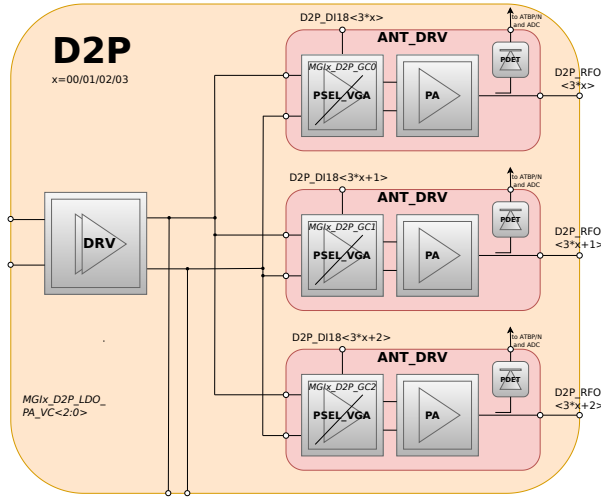

Figure 18: D2P block diagram.
The Digital to Phase block is responsible for the excitation of the three inputs of a SW MAJ. It is comprised of one driver (DRV) and three antenna driver (ANT_DRV) blocks, with separate phase and gain control utilities for the latter. ANT_DRV is comprised of two stages, the phase select and variable gain amplifier (PSEL_VGA) block and the power amplifier (PA) block. In each PA output a power detector is connected. The D2P block diagram is depicted in Figure 18.